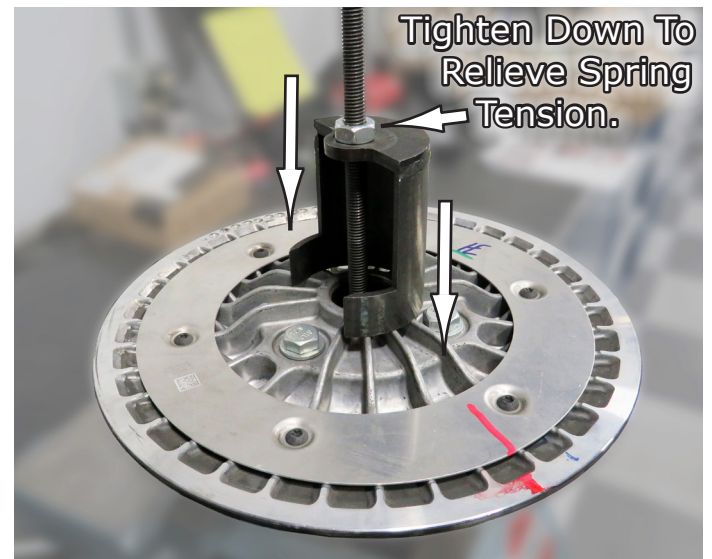

Fig.10
11. Now, compress down using your compression tool relieving spring pressure. See **Fig.10**.